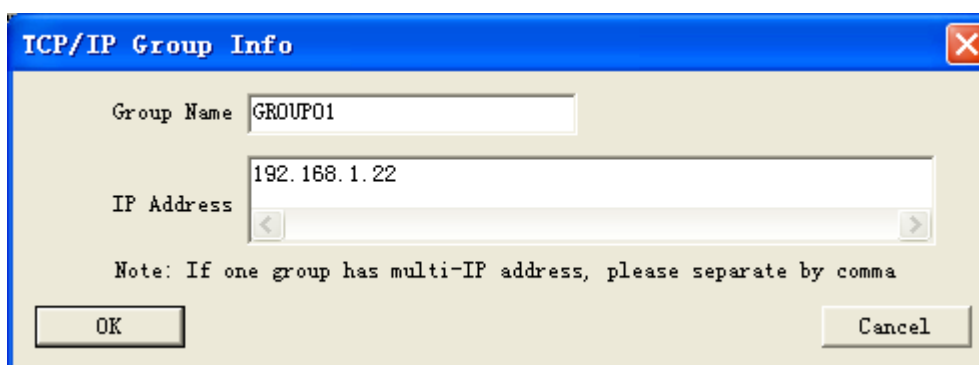

Fig2.64
2. Set the IP address. Click button, it will display a dialog box to set the IP address as fig2.64. In dialog box input the group name and IP address, then click ‘OK’ button to confirm. Then the group’s name and IP address (“Name<=>IP address”) will be displayed in “IP address List” window.